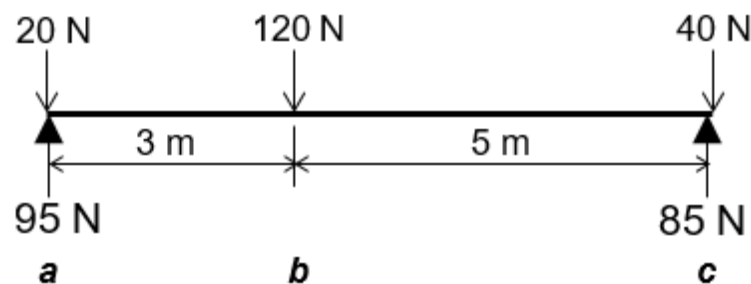

FIGURE 5.2
5.2 FIGURE 5.2 shows a beam with point loads. Use the information on Sheet C and calculate on Sheet C the shear force values from point **a** to **c** and draw the shear force diagram on scale 1 mm = 1 N.